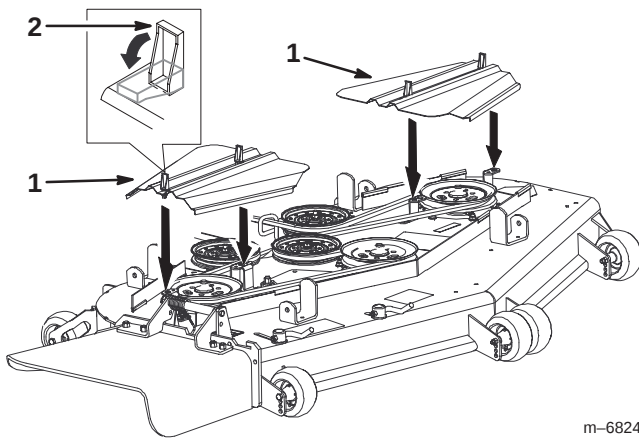

Figure 73
- Remove the belt covers (Fig. 73).
- Install the belt covers and close the latches (Fig. 73).